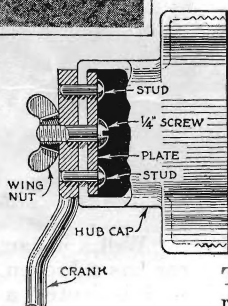

Fig. 1. By this arrangement the engine is used to pump up the air mattress
**F. R. GORTON**, of Ypsilanti, Mich., wins the \$10 prize this month for his suggestion of an air mattress inflating method (Fig. 1). Each month *POPULAR SCIENCE MONTHLY* awards \$10, in addition to regular space rates, to the reader sending in the best idea for motorists. Other published contributions will be paid for at the usual rates.